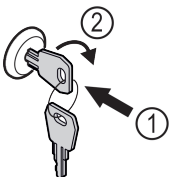

Fig. 146 Example illustration
- ▶ Insert key Fig. 146 (1).
- ▶ Turn key clockwise by 90° Fig. 146 (2).